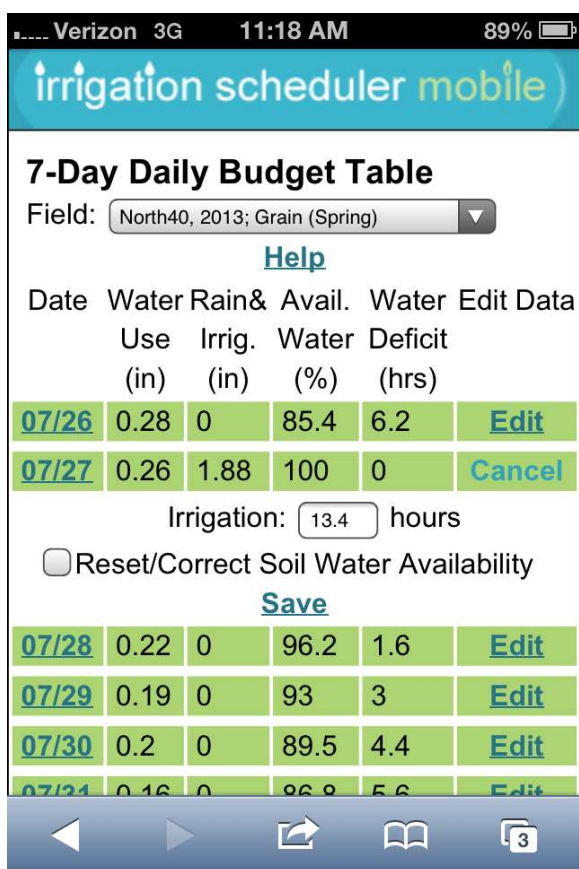

Figure 11. Edit button expands table for inputs.
**Edit Data:** Use this link at each line to add irrigation amounts or correct the model for measured soil water contents (Figure 11).
**Edit Data:** Clicking the Edit link on that day expands the screen to accept inputs for that day as shown in Figure 11. From here you can add or edit irrigation amounts, or reset or correct the soil water availability to make it better match reality based on observations or soil moisture measurements. Click **Cancel** closes the table up again. You must click **Save** for these changes to be applied.